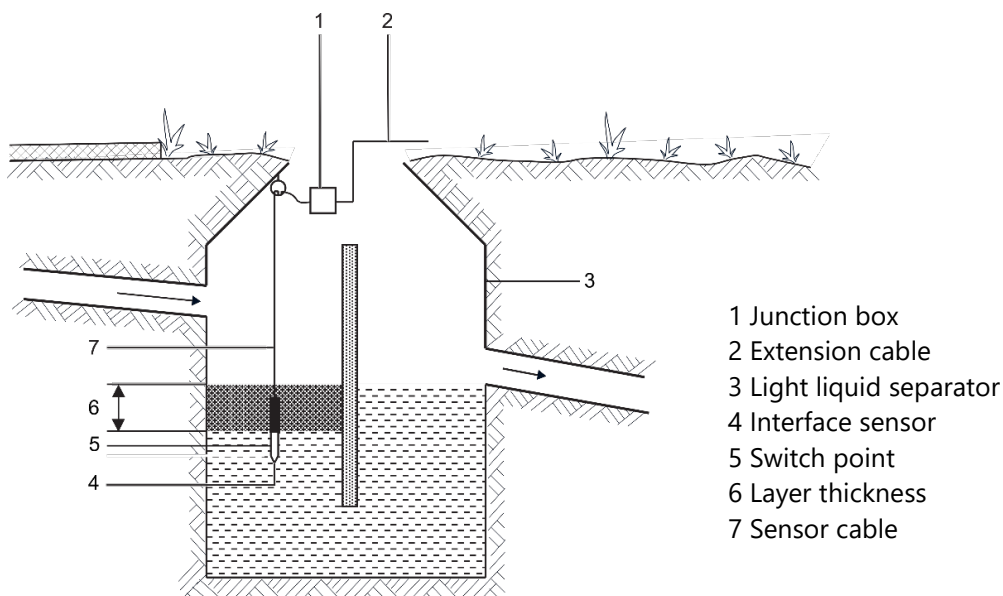

Figure 3: SEPARIX-C, installation
The interface sensor (4) is suspended on its cable (7) in the light liquid separator (3), immersed into the fluid to be monitored and in a distance of minimum 100 mm to the separator wall and all separator internal installations (see Figure 3). It should be observed not to install the sensor directly near the separator's inlet because of an increased risk of contamination or disturbance by splashing fluids. The correct fastening method and materials depend on local installation rules and regulations and the material used for the separator (concrete, plastic, metal, etc.).